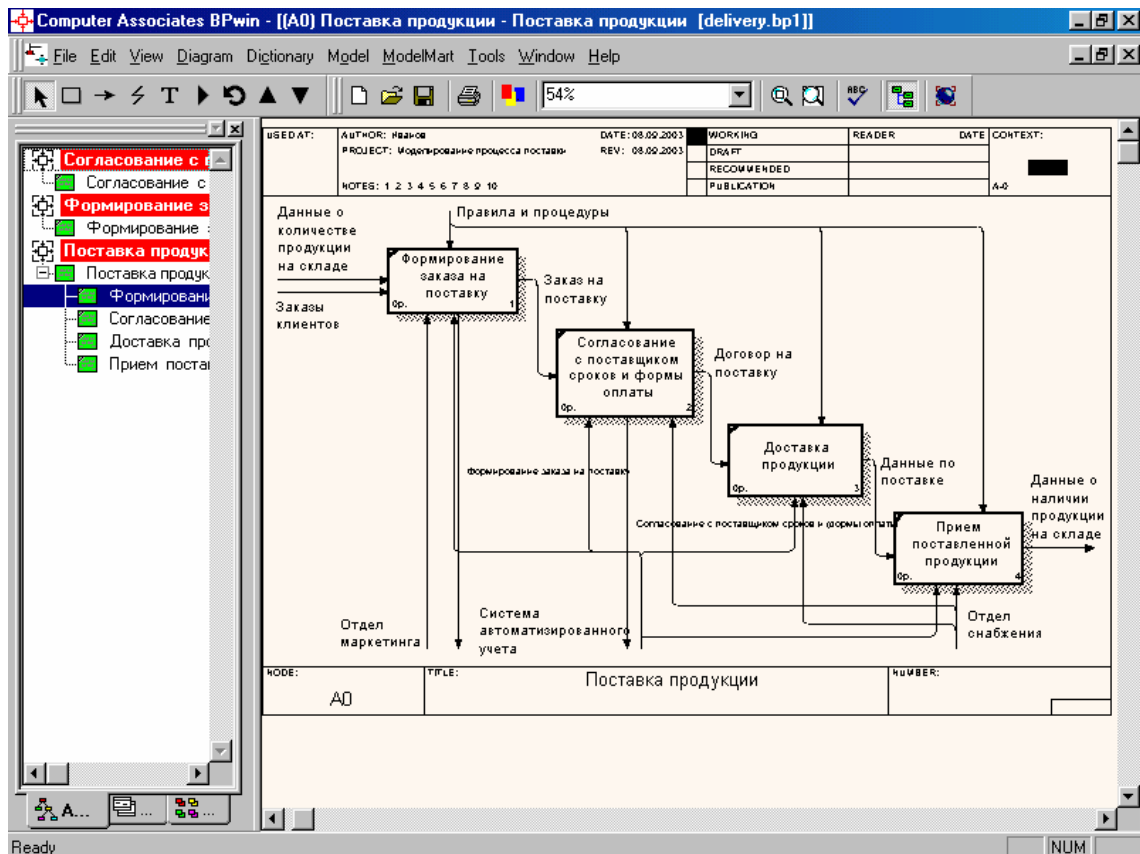

Figure 1.10
7. As a result, in the window "Model Explorer" you can see the original model and models that appeared as a result of splitting (Figure 1.10).